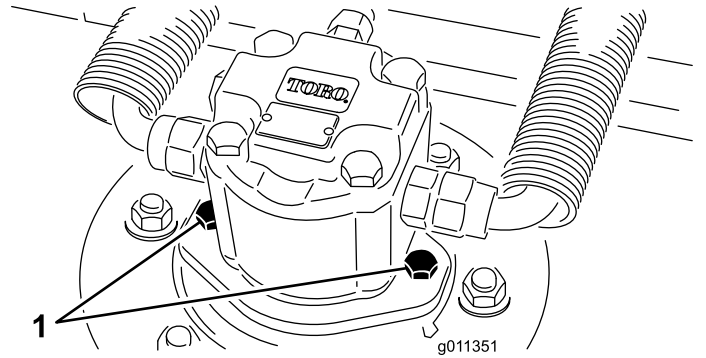

Figure 92
2. Disconnect and remove the hydraulic motor from the cutting unit (Figure 92). Cover the top of the spindle to prevent contamination.
3. Install the hydraulic motor to the cutting unit (Figure 92). Make sure that the O-ring is in position and not damaged.